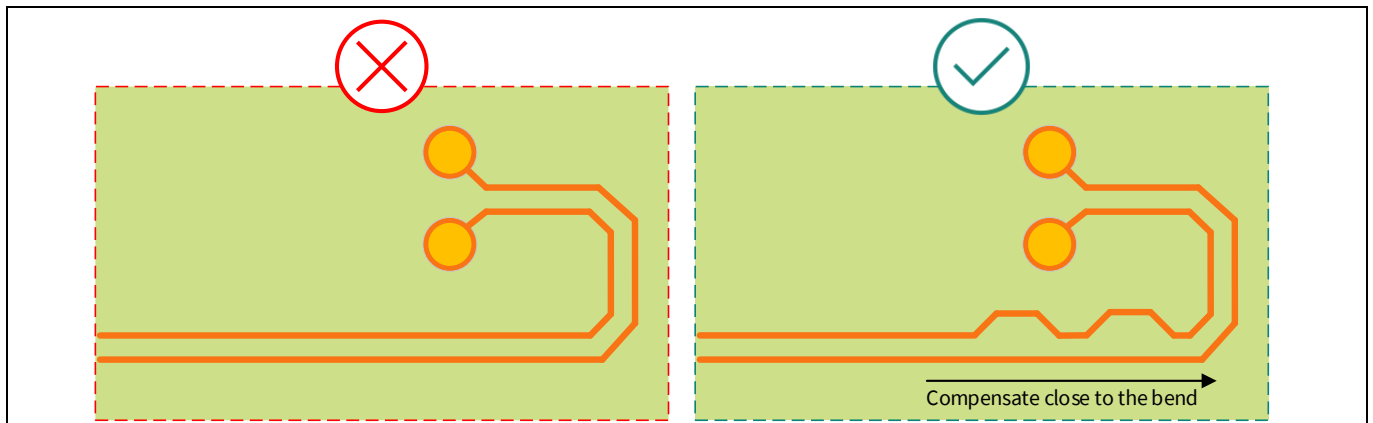

Figure 11 Place length compensation close to the bends
- Bends can also cause inconsistencies if the trace on the inner bend is smaller than the outer trace. In such cases, compensate the length close to the bend area as shown in Figure 11